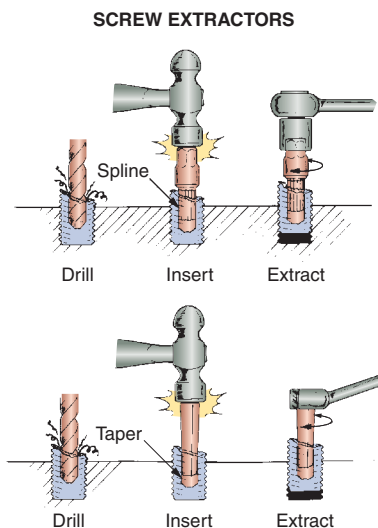

Figure 4-39 The two most common extractors.
- Insert the easy out by tapping it into place with a hammer, attach the handle, and turn counterclockwise to remove the damaged fastener (Figures 4-39 and 4-40).